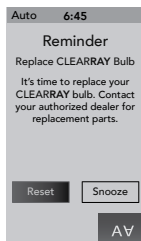

Figure 15.0c
21. CLEARRAY Replacement Reminder: This message will appear when the **CLEARRAY** bulb reminder time has expired (Figure 15.0c). The **CLEARRAY** bulb must be replaced.